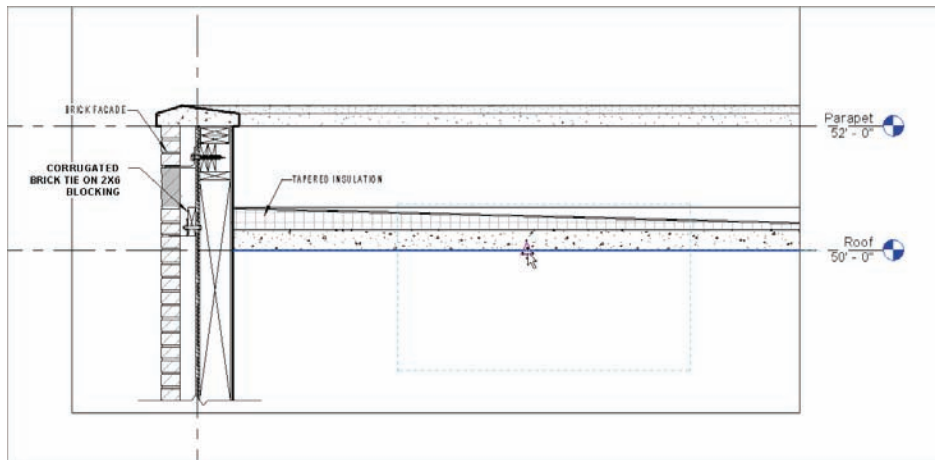

FIGURE 12.75 Picking a point along the bottom of the roof to place the group
4. Pick a point along the bottom of the roof, similar to what is shown in Figure 12.75.